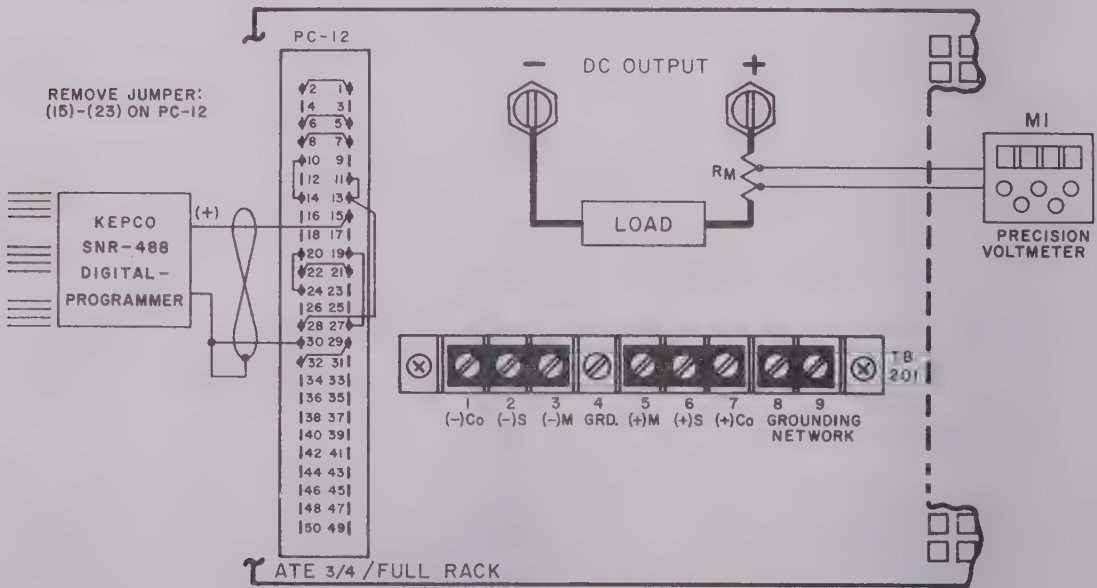

FIG. 3-11 CONNECTIONS FOR OUTPUT CURRENT CONTROL WITH A 0-1 VOLT CONTROL SIGNAL (KEPCO SN-488 DIGITAL PROGRAMMER).
- 3-58 GENERAL. The ATE output current, controlled by a front panel CURRENT CONTROL rheostat in the local control mode, can be remotely controlled by disconnecting the 15V bias from the non-inverting input of the EXT. CURRENT COMPARISON AMPL at the REAR PROGRAMMING CONNECTOR, and applying a 0 to 1 volt external control signal with reference to the ATE COMMON terminal. Since the non-inverting input of the EXT. CURRENT COMPARISON AMPL is used, only the small amplifier bias current must be supplied by the external control source. IN ALL CURRENT PROGRAMMING APPLICATIONS, THE FRONT PANEL CURRENT CONTROL SETTING OF THE ATE ACTS AS A "BACK-UP" CURRENT LIMIT AND MUST BE SET SLIGHTLY HIGHER THAN THE REQUIRED MAXIMUM OUTPUT CURRENT. An application, demonstrating this control method is described in PAR. 3-60 and illustrated in FIG. 3-11.
- 1) Connect the EXT. CONTROL VOLTAGE, (Model SN-488 Digital Programmer), the LOAD and the PRECISION VOLTMETER (M1) to the ATE as shown in FIG. 3-11.
- Note: The output current value can be measured directly by means of a suitable ammeter in series with the load or, as indicated in FIG. 3-11, indirectly by means of the precision voltmeter (M1) across a current measuring resistor (R_M). R_M should be selected such that a convenient range on the precision voltmeter can be used, e.g., for a 10 ampere output current, use a 0.1 ohm, resistor to produce a one volt full scale reading. If an electronic voltmeter is used, it should be batter-operated to avoid ground loops.